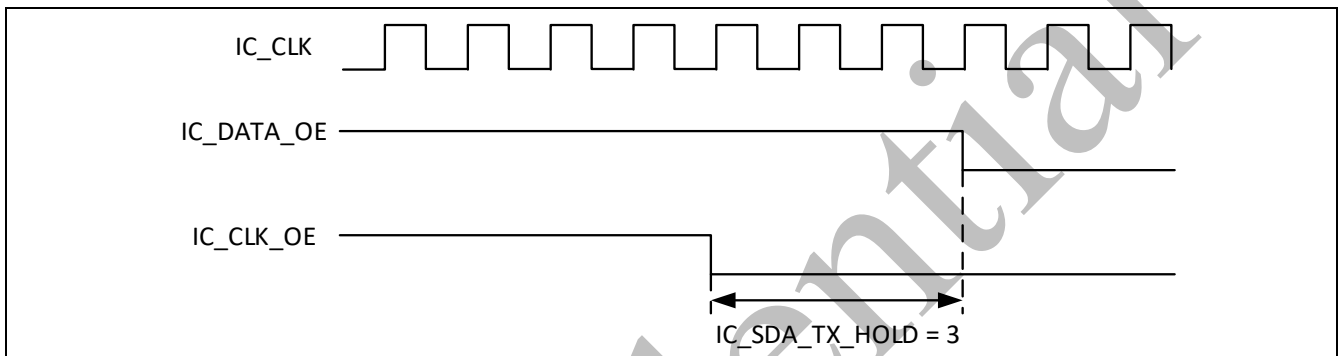

Figure 3-79 I2C Master Implementing tHD:I2C\_DATA with SDA\_HTLR = 3
- Figure 3-79 shows the tHD:I2C\_DATA timing generated by the I2C operating in Master Mode when SDA\_TX\_HTLR = 3.